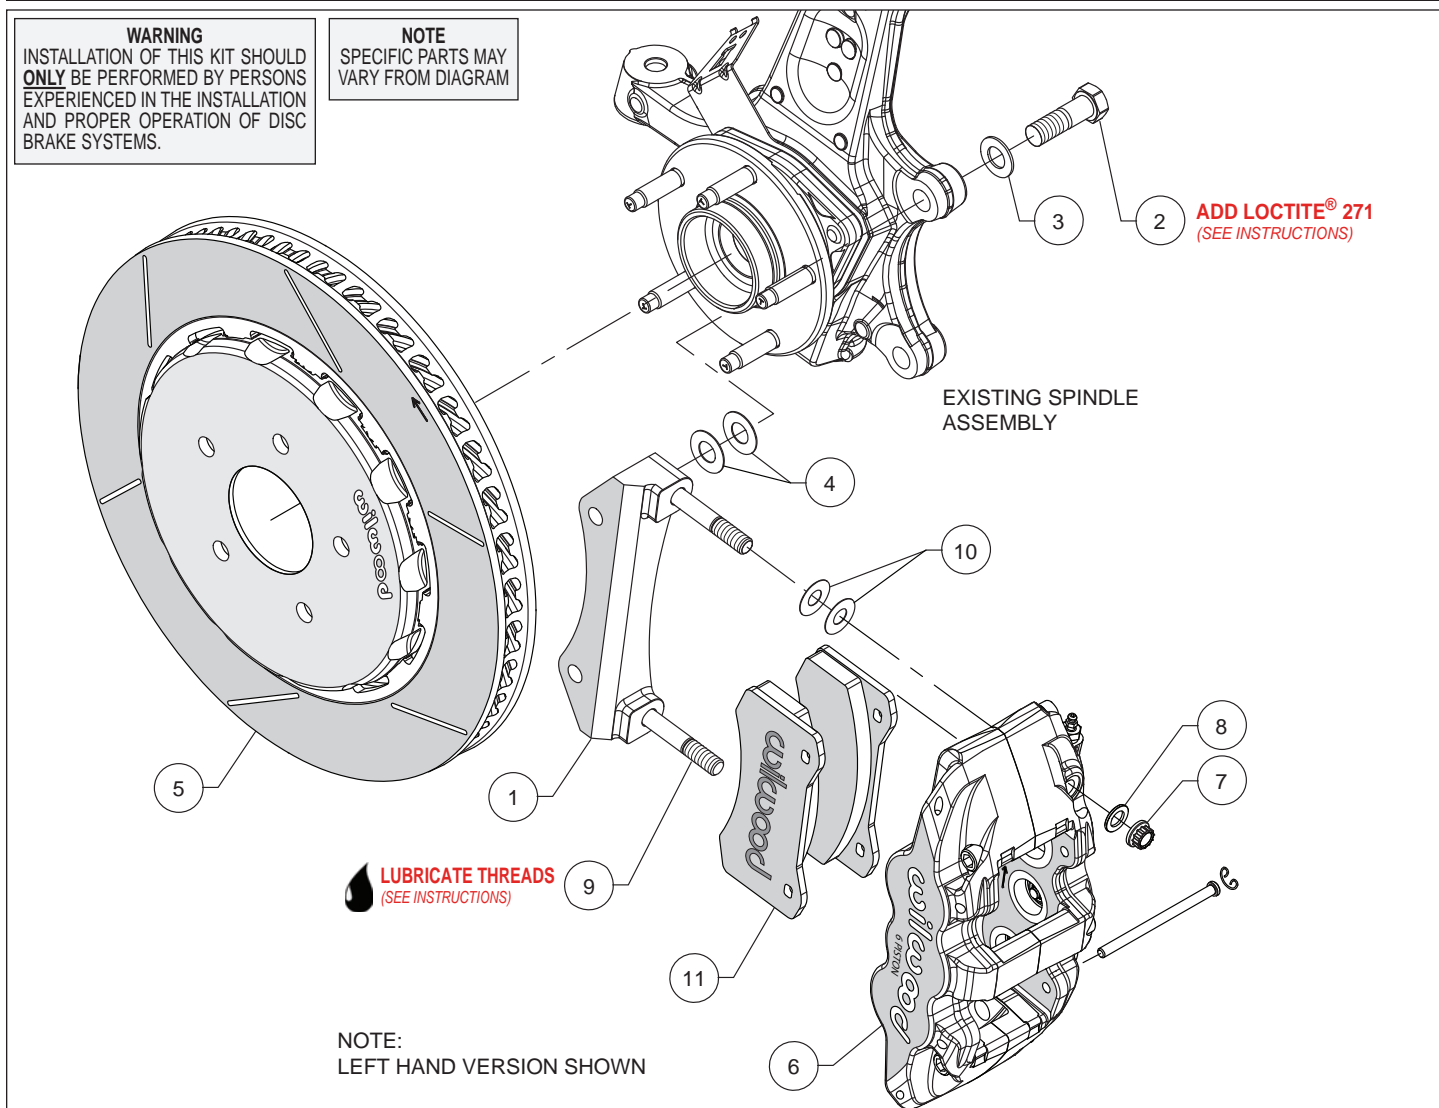

Figure 1. Typical Installation Configuration
Assembly Instructions (numbers in parenthesis refer to the parts list and Figure 1 on the preceding pages):
- The caliper mount bracket (1) should initially be installed with clean, dry threads on the mounting bolts. Orient the bracket, as shown in Figure 1 and Photo 1, and install using bolts (2) and washers (3). Initially place two .029" thick shims (4) on each bolt between the bracket and upright, Figure 1. Temporarily tighten the mounting bolts. **NOTE:** *The bracket must fit squarely against the mount bosses on the upright.* Inspect for interference from casting irregularities, machining ridges, burrs, etc. Later, after the caliper alignment has been checked, the mount bolts will be secured using red *Loctite*[®] 271.
- NOTE:** *This kit contains distinct right and left hand calipers that must be mounted in a specific direction, as described below.* Lubricate the caliper mounting studs (9) with lightweight oil. Initially place two .016" thick shims (10) on each stud between the caliper and the bracket, as shown in Figure 1 and Photo 3. Mount the caliper (6) onto the bracket (1) using lock nuts (7) and washers (8), Figure 1. Ensure that the caliper is mounted so the largest pistons are at the rotor exit end of the caliper, in relation to the direction of rotor rotation. Temporarily tighten the lock nuts and view the rotor through the top opening of the caliper. The rotor should be centered in the caliper, Photo 4. If not, adjust by adding or subtracting shims (4) between the bracket and the upright. Always use the same amount of shims on each of the two mounting bolts. Once the caliper alignment is correct, remove the bracket mounting bolts (2) one at a time, apply red *Loctite*[®] 271 to the threads, and torque to 77 ft-lbs.
- Remove the caliper (6) then remove the two pad retaining pins from the caliper by carefully popping out the pin retaining clips and sliding out the pins. Insert the brake pads (11) into the caliper from the bottom, Figure 1 and Photo 5. With the friction material facing the rotor, secure the brake pads in place with the pad retaining pins and clips, Photo 6. Reinstall the caliper onto the caliper mounting bracket and temporarily tighten the lock nuts (7). Check that the top of the brake pad is flush with the outside diameter of the rotor, Photo 7. If not, adjust by adding or subtracting shims (10) between the caliper and the bracket. After the caliper pad height is set, torque the caliper lock nuts (7) to 47 ft-lb.